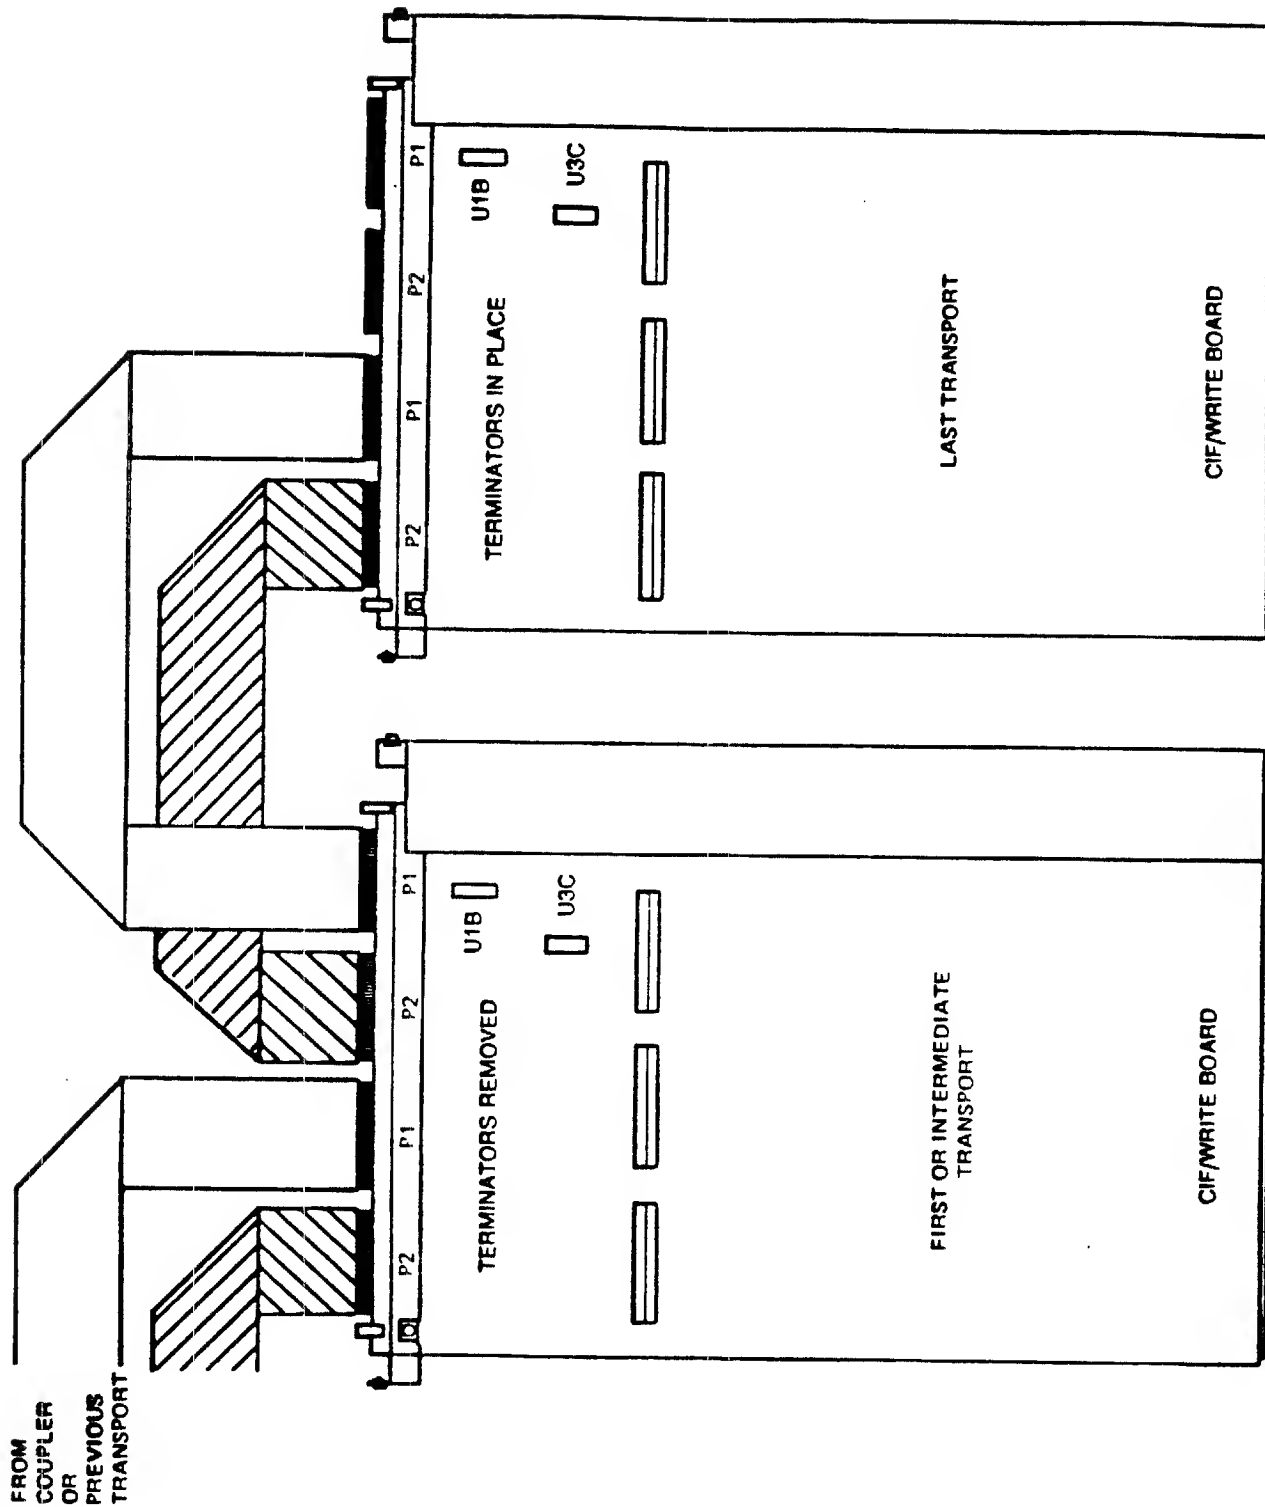

Figure 10. Daisy Chain Configuration
3. Remove terminator resistor pack U1B and U3C (Figure 10) from each transport except last unit in the chain.
4. Install interconnection cables as shown in Figure 10.